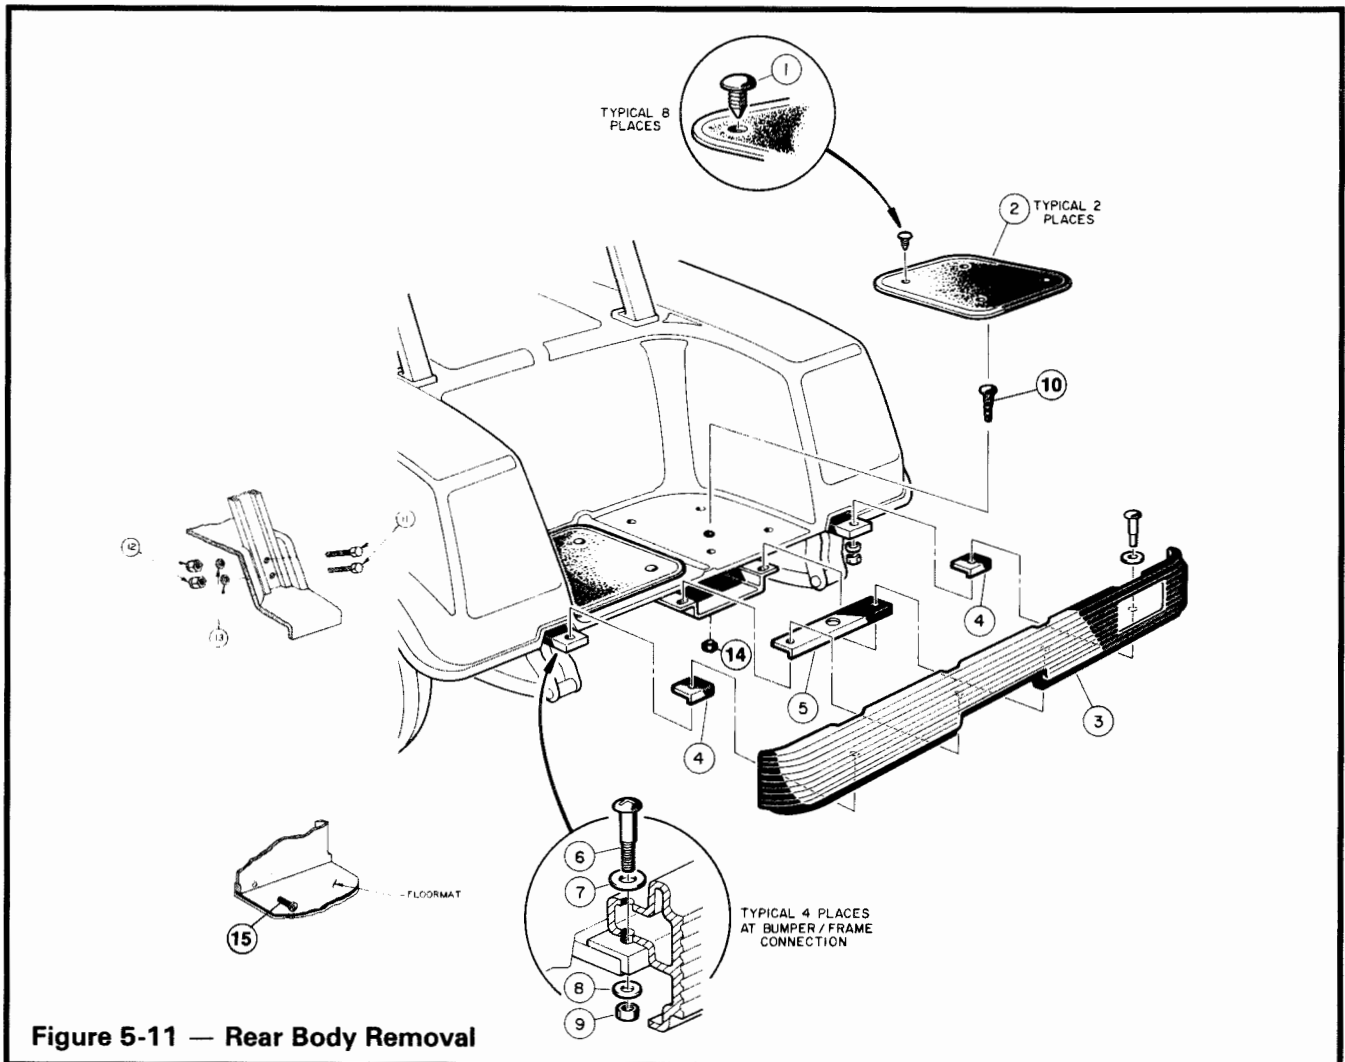

Figure 5-11 — Rear Body Removal
REAR BODY (Figure 5-11)
7. Remove 4 bolts (11), locknuts (12) and flatwashers (13) at the front of both seat back mounting plates (**Figure 5-11**).